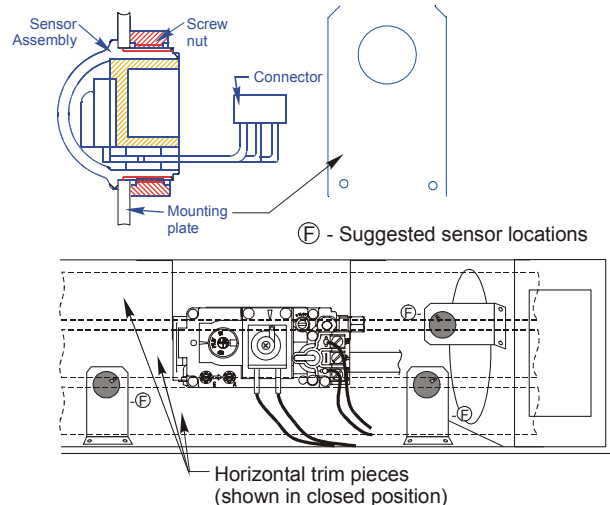

Figure 4. Installing the Receiver Sensor.
2. Attach the mounting plate to the fireplace in one of the positions shown in Figure 4. Bend the assembly so that the SENSOR is facing the back side of the horizontal trims